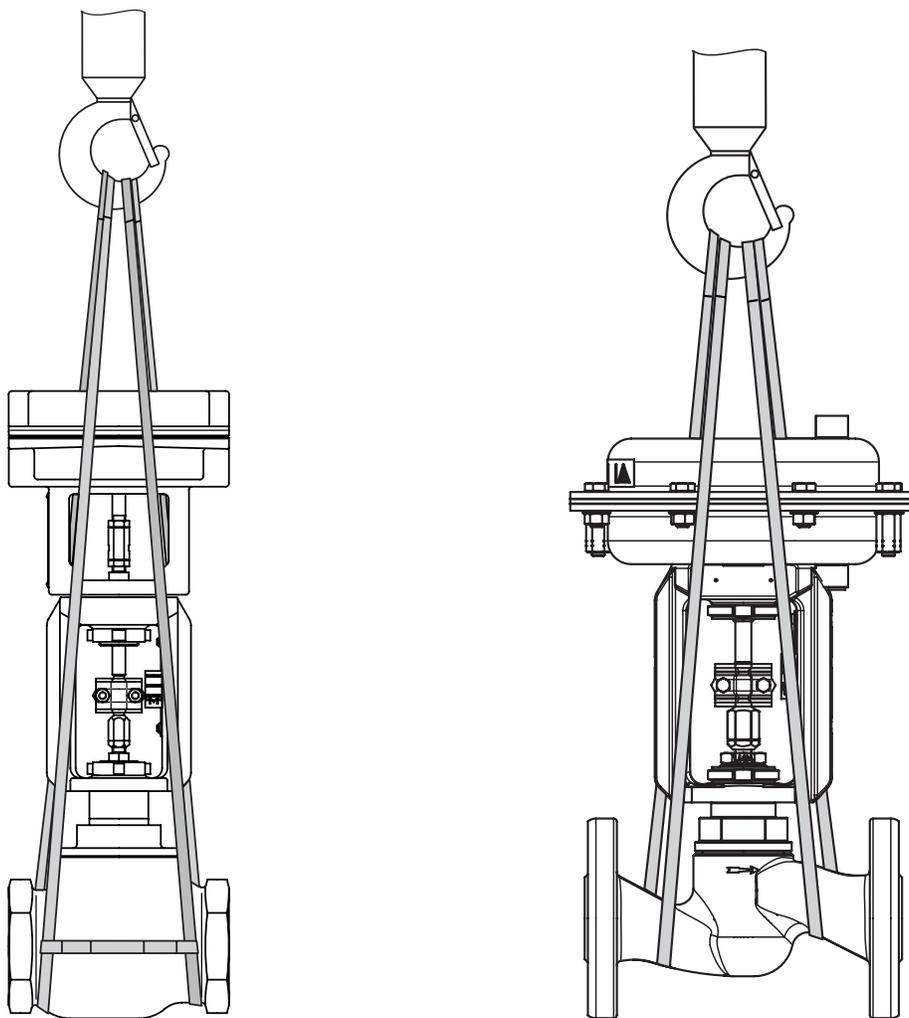

Fig. 4: Lifting points on the control valve
1. Attach one sling to each threaded end or flange of the body and to the rigging equipment (e.g. hook) of the crane or forklift (see Fig. 4).
We recommend using a hook with safety latch (see Fig. 4). The safety latch prevents the slings from slipping during lifting and transporting.